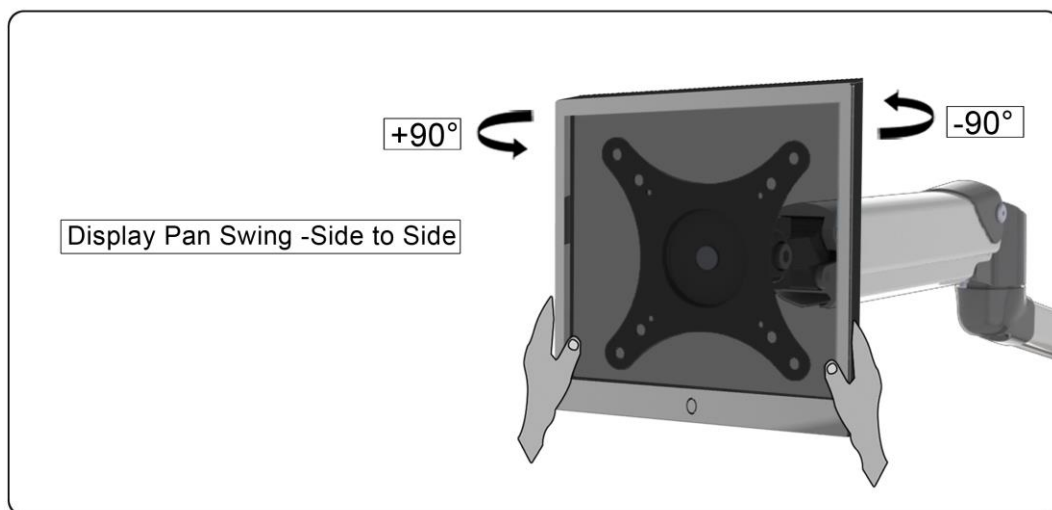

Figure 5-3
- This product features $\pm 90^\circ$ Swivel (See Figure 5-3).